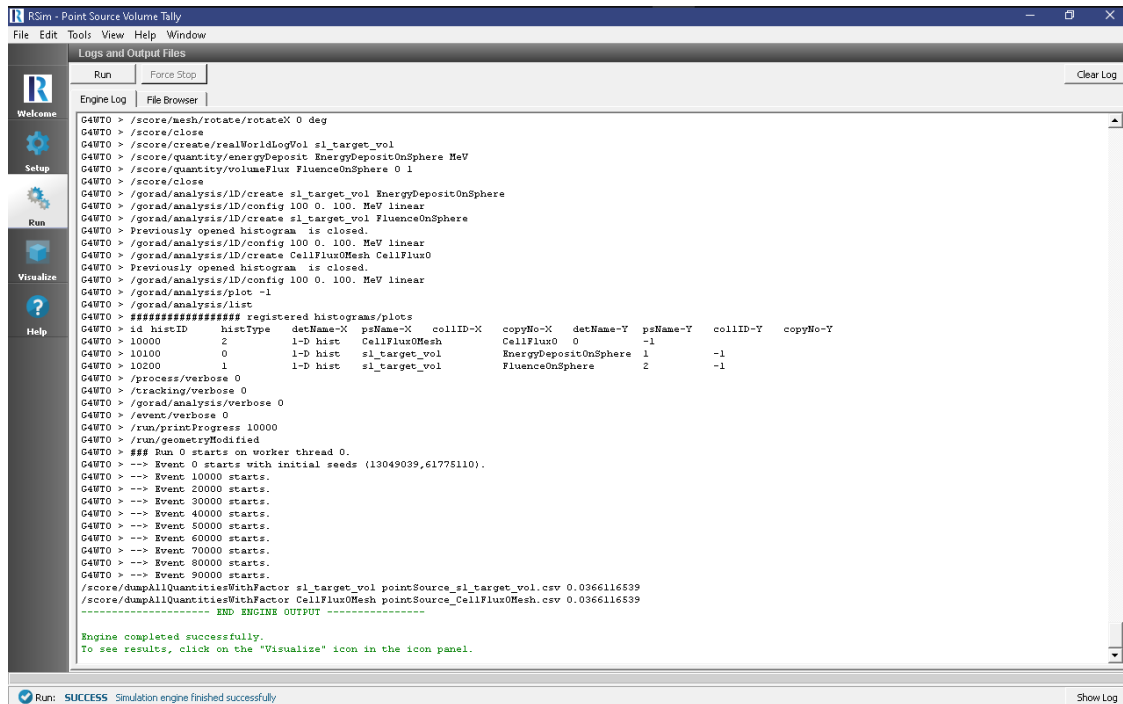

Fig. 2.17: The Run Window at the end of execution.
- To run the file, click on the *Run* button in the upper left corner of the *Logs and Output Files* pane. You will see the output of the run in the right pane. The run has completed when you see the output, “Engine completed successfully.” This is shown in Fig. 2.17.